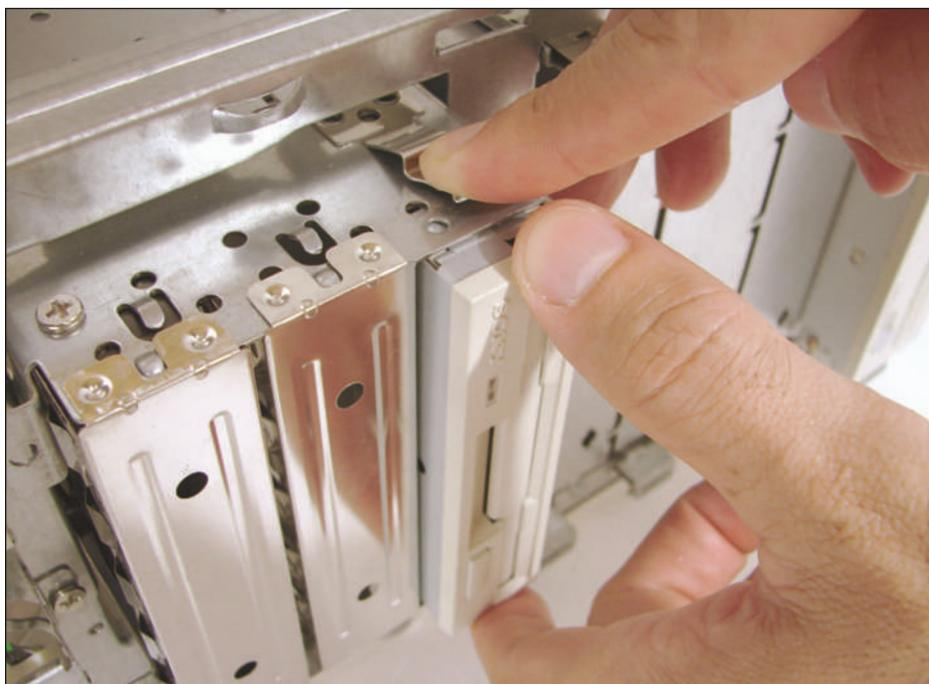
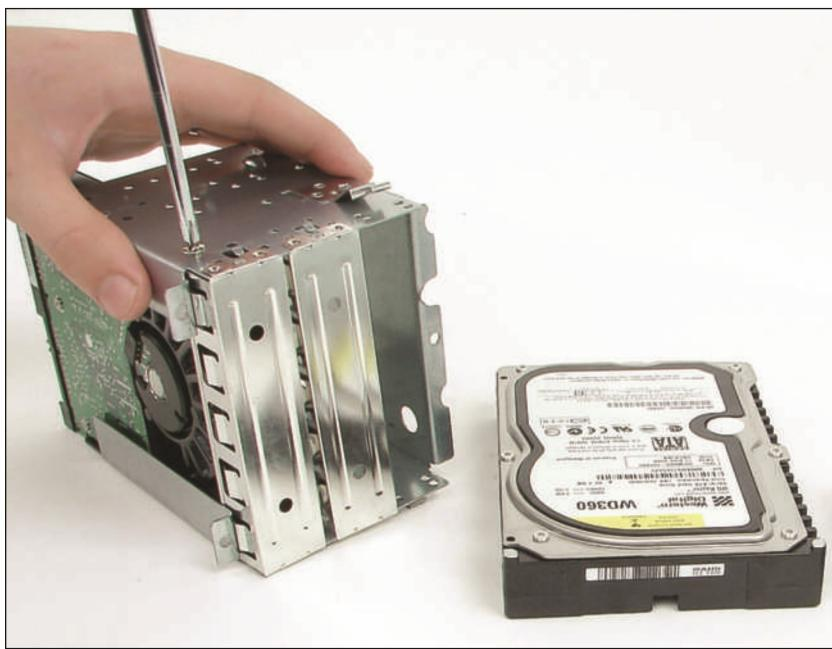

Figure 2-18 Push down on the clip and then slide the removable bay forward and out of the case
Figure 2-19 Drives in this removable bay are held in place with screws on each side of the bay
- Some cases have a removable bay for small drives (see Figure 2-18). These bays can hold narrow drives such as hard drives and tape drives. The bay is removed first and then the drives are removed from the bay. To remove the bay, first remove the screws or release the clip holding the bay in place and then slide the bay out of the case. The drives are usually installed in the bay with two screws on each side of each drive. Remove the screws and then the drives (see Figure 2-19).